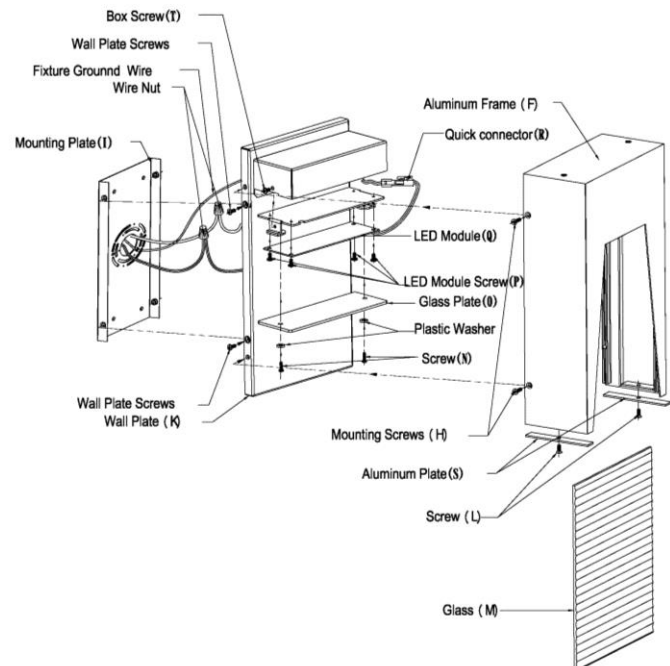

Fig.2
3. Attach the mounting plate (I) to the outlet box using the outlet box screws (J). The side of the mounting plate marked "GND" must face out. Connect wire.
4. **CONNECTING THE WIRES (FIG. 2)**
- a. At this point, connect the electrical wires as shown in Fig. 2, making sure that all wire connectors are secured. If your outlet box has a ground wire (green or bare copper), connect the fixture's ground wire to it. Otherwise, connect the fixture's ground wire directly to the mounting strap using the green screw provided. Tuck the wire connections neatly into the wall outlet box.
- b. Attach the fixture wall plate (K) with wall plate screw over the mounting plate (I) and securing with mounting screws (H) until snug.
5. Install the Aluminum frame (F) in the Wall plate(K), Then secure in the Mounting plate(I) tightly.
-Mounting screws (2)